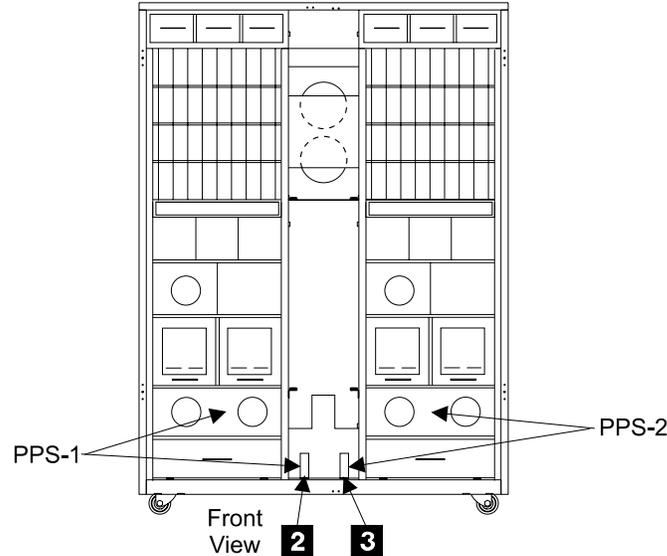

Figure 217. Line Cord Bracket Connectors (S008103m)
- PPS 1, **2** [Figure 217]
- PPS 2, **3** [Figure 217]